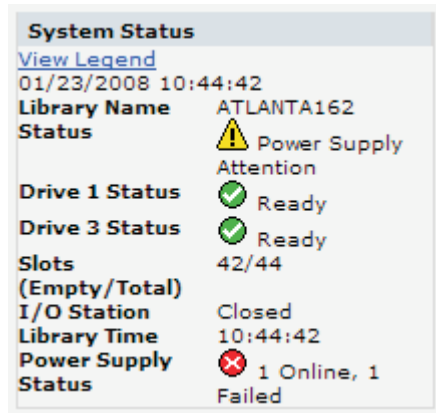

Figure 13. 4U library System Status screen showing a power supply failure
- The Power Supply Status will only appear if redundant power is being utilized with a 4U library, and the library was manufactured after March 14, 2008. If a redundant power supply fails, the System Status screen will appear as shown in Figure 13 on page 23.